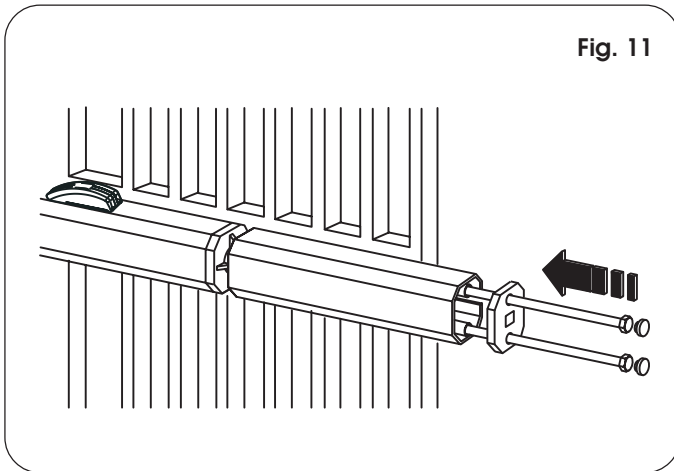
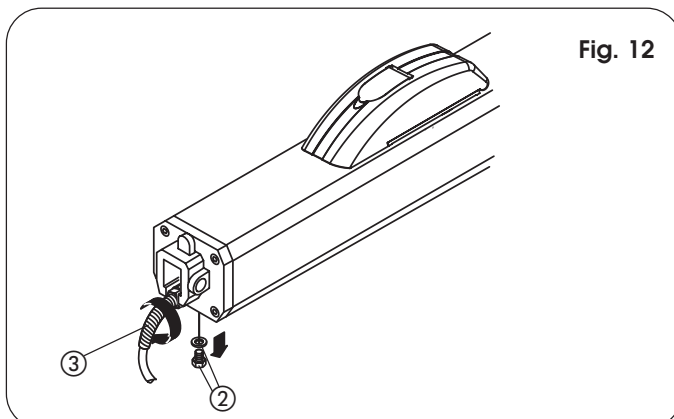

Fig. 11
Fig. 12
- 12) Prepare the protective housing and fit it on the operator as shown in Fig. 11. Fit the electric cable bend guard (ref.③, Fig. 12).
- Remove the breather screw (Fig.12, ref. ②)